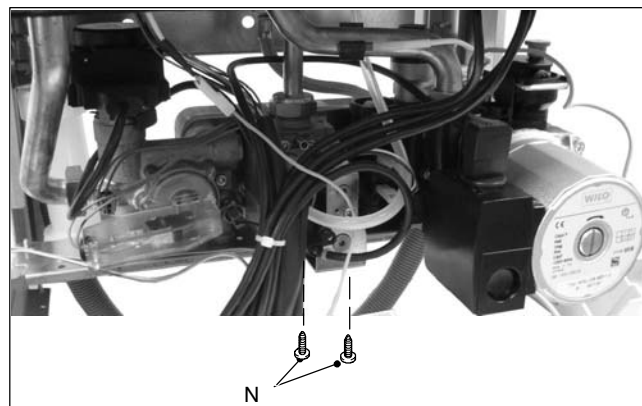

Fig. 11.11
- 6 Unscrew the screws *N* and remove the valve (Fig. 11.11).